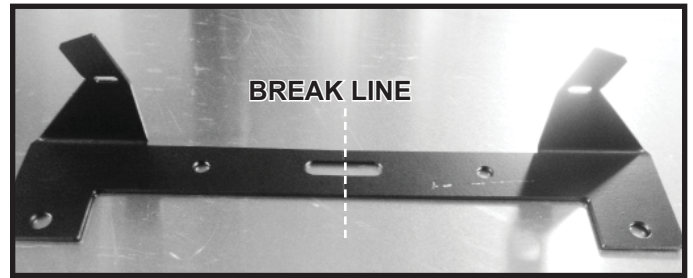
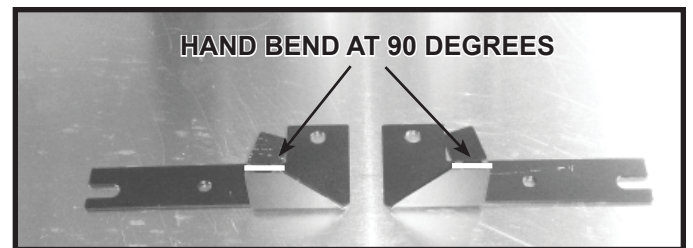

Figure 10.9. Barrier Glass Support
Figure 10.11. Form Barrier Glass Support
5. Break the barrier glass support into two pieces as shown in Figures 10.9 and 10.10. Make the hand bends as shown in Figure 10.11 to form the glass supports